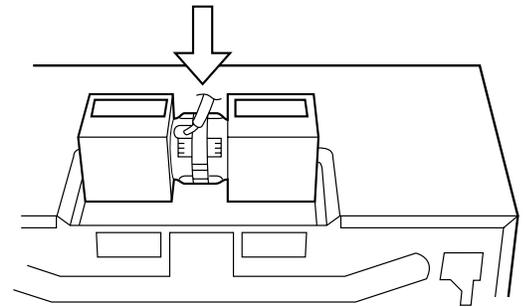

Figure 14
3. Turn the Hood Fan Unit end-over-end. Rotate the Hood Fan Unit 90 degrees so that the fan blade openings are facing upward. Replace Hood Fan Unit into the oven. Be careful not to pinch the lead wire between the inner bracket and the Hood Fan Unit. See Figure 14.
4. Put the lead wire into Wire Box. See Figure 14.